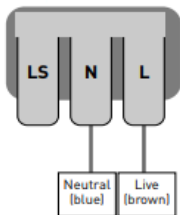
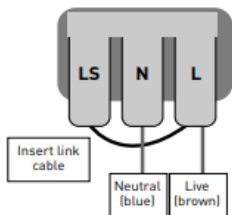
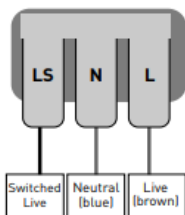

Fig. 2
Fig. 3
Fig. 4
- Wire for non-maintained operation (Fig. 2), maintained operation (Fig. 3) or switched-maintained operation (Fig. 4) as required. Remove the link between LS and L if not required